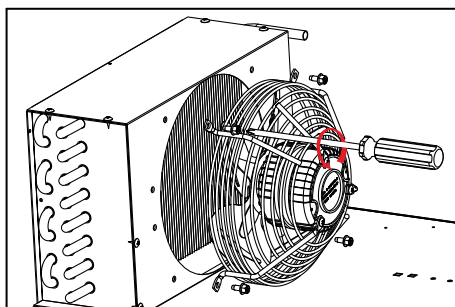

Fig 8-10
2. Unscrew the bolts of the fan motor assembly from the condenser coil. (Fig 8-10)